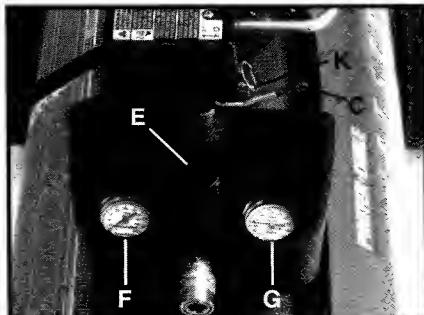

Fig. 3
ON/AUTO - OFF Switch (C) Fig. 3: Turn this switch ON to provide power to the automatic pressure switch and OFF to remove power at the end of each use.
Regulator (E) Fig. 3: The air pressure coming from the air tank is controlled by the regulator. Pull up on the regulator knob to UNLOCK. Turn the regulator knob clockwise to increase pressure and counterclockwise to decrease pressure. To avoid minor readjustment after making a change in pressure setting, always approach the desired pressure from a lower pressure. When reducing from a higher to a lower setting, first reduce to pressure less than that desired, then bring it up to the desired pressure. Depending on the air requirements of each particular accessory, the outlet regulated air pressure may have to be adjusted while operating the accessory. Push down on regulator knob to LOCK at desired setting.
Outlet Pressure Gauge (F) Fig. 3: The outlet pressure gauge indicates the air pressure available at the outlet side of the regulator. This pressure is controlled by the regulator and is always less than or equal to the tank pressure. See "Operating Procedures".
Tank Pressure Gauge (G) Fig. 3: The tank pressure gauge indicates the reserve air pressure in the tank.
Safety Valve (K) Fig. 3: If the pressure switch does not shut off the air compressor at its cutout pressure setting, the safety valve will protect against high pressure by "popping out" at its factory set pressure (slightly higher than the pressure switch cut-out setting).